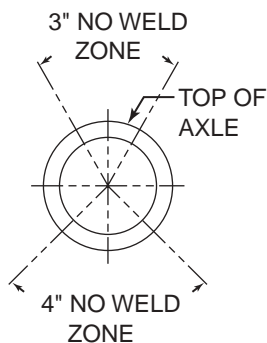

Figure 18. No Weld Zones
A) All welds must be kept away from the top and bottom of the axle where maximum stresses occur. The "no weld" zones are illustrated in (Figure 18).